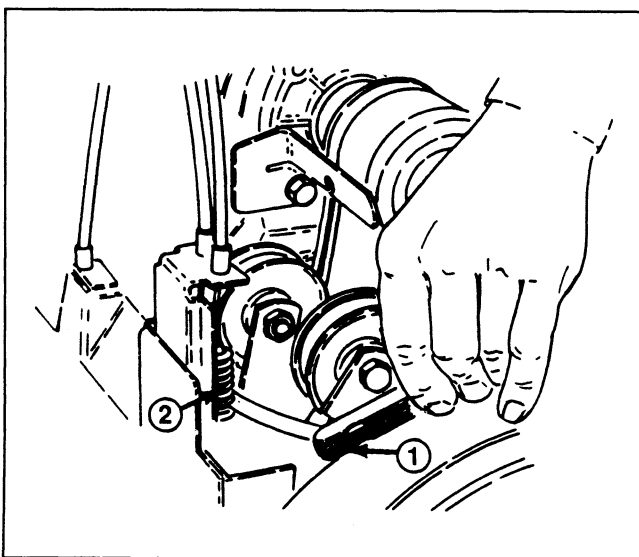

Figure 29
3. Depress the auger/impeller control lever on the right hand grip. Hold the lever and insert a .010" (.25 mm) feeler gauge between a coil in the center of the spring (Fig. 29). Adjust the cable to achieve .010" (.25 mm) gap between the coils.